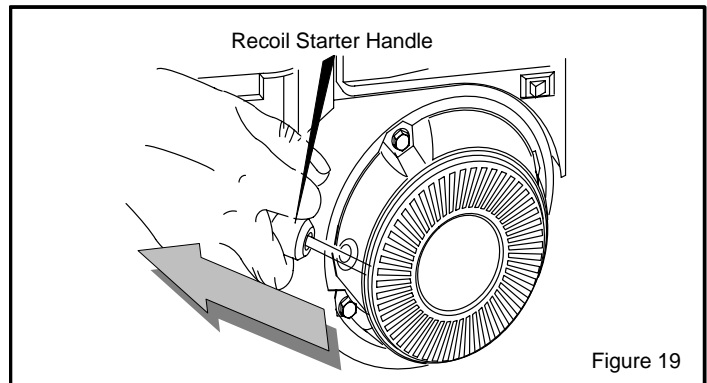

Figure 19
6. (**RECOIL START**) Pull starter handle (Figure 19) rapidly, and allow to rewind slowly while maintaining firm grip on handle.